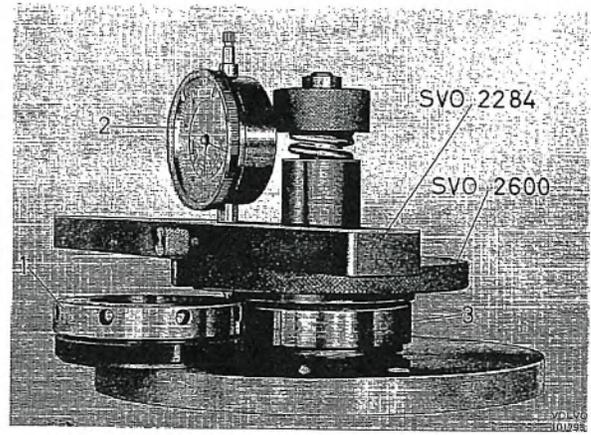

Fig. 4-151. Determining shim thickness
3. Place the complete rear pinion bearing with the outer ring in measuring fixture 2600. Put on the plate, spring and nut. Turn the nut with the flat side facing upwards. The plate, and thereby the bearing, is turned forwards and backwards several times so that the rollers take up the correct position. Place the adjusting ring in the measuring fixture as shown in Fig. 4-151. Use
3. When correct backlash and contact pattern are obtained, remove the differential and adjusting ring. Then place the center washer on the measuring fixture. Fit a bearing into the measuring fixture, likewise the plate, spring and nut. Fit the nut with the flat side facing downwards. Rotate the plate forwards and backwards several times. Put on the dial indicator and retainer 2284. Zero-set the indicator to the adjusting ring and then place the measuring point facing the bearing, see Fig. 4-151. Read off the indicator. With a micrometer measure the shims, the total thickness of which corresponds to the read-off value + 0.07 mm (0.003"). Place the shims together with the measured bearing to the one side. Repeat the above procedure with the other bearing.